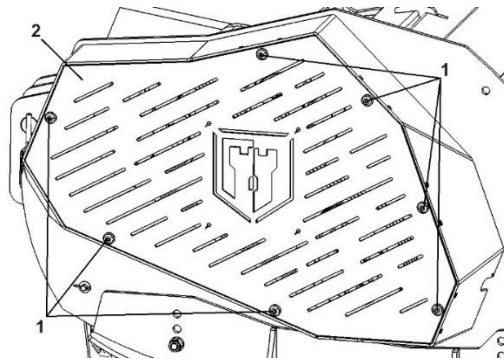

Figure 14. Adjusting the belt drive tension: 1 – fastening bolts, 2 – belt drive guard
To adjust the belt tension, proceed as follows (Fig. 14):
- unscrew the fastening bolts of the belt drive guard (Fig. 14, item 1),
- remove the belt drive guard (Fig. 14, item 2),